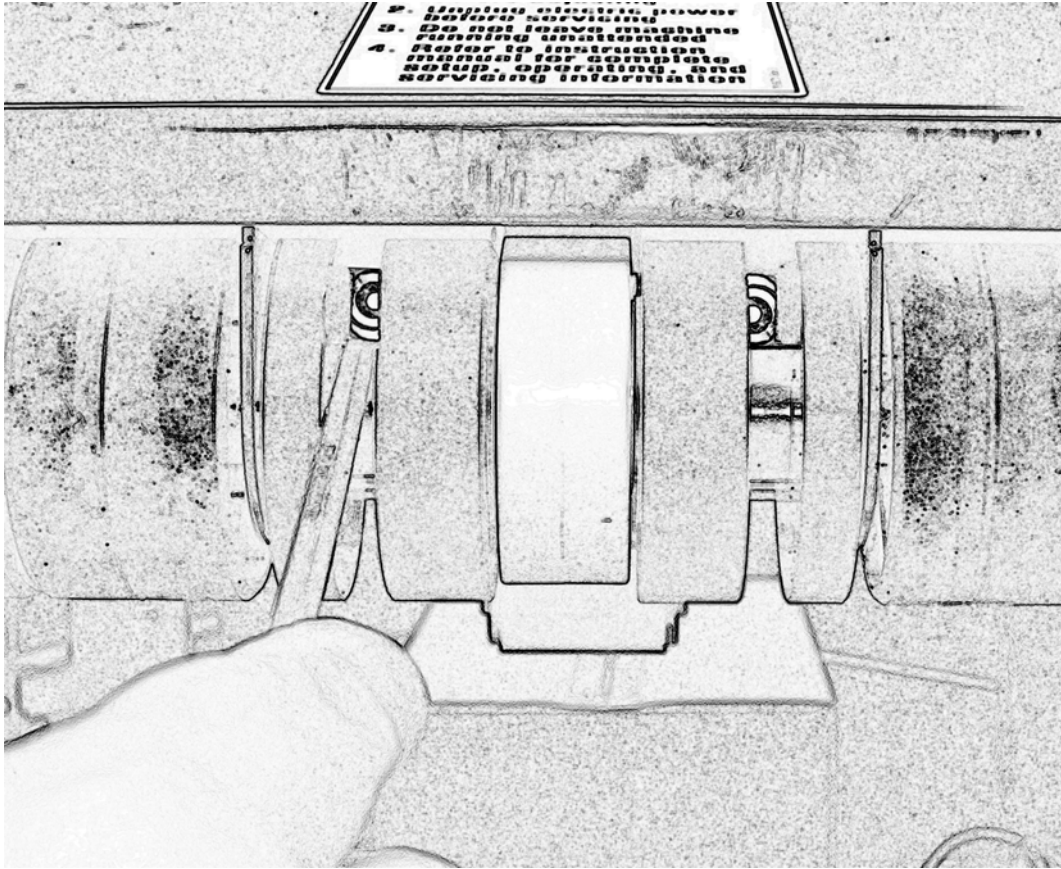

Figure 5-3—Box Drive Belt Tension Adjustment, Upper Belts (Infeed End)
2. Using a 6 mm hex wrench, loosen tension screw until all belt tension is removed as shown in Figure 5-3.